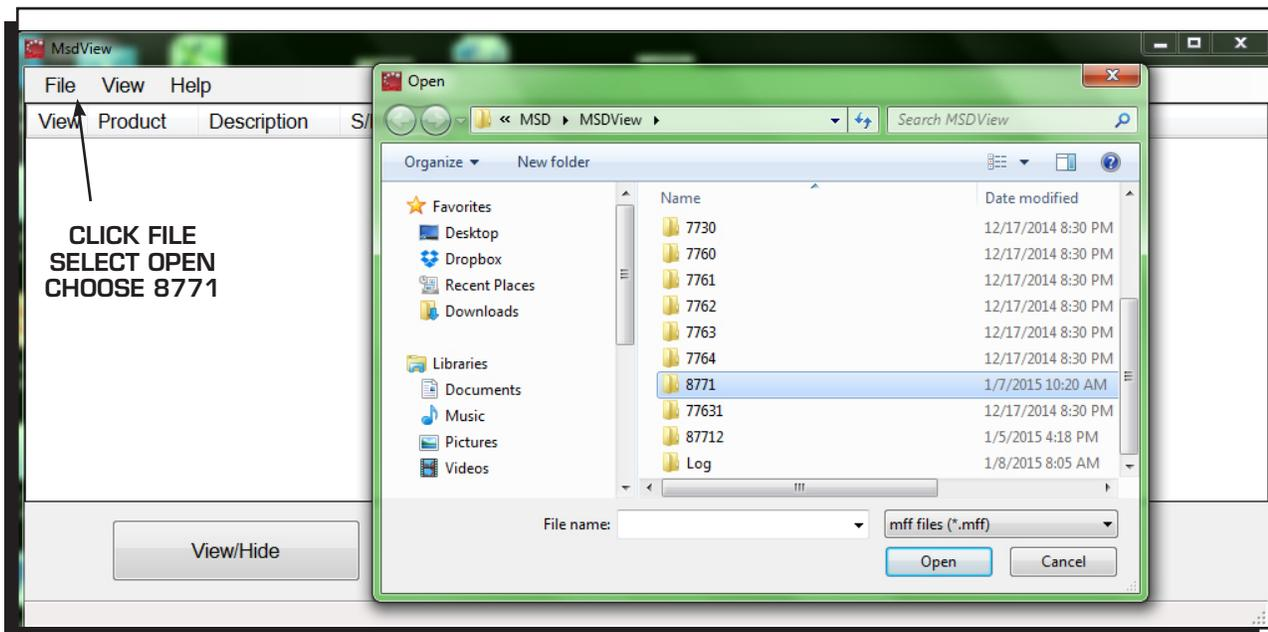

Figure 1 Open the View Program.
5. When the View Icon is selected, a window will open. Go to File, Open and scroll down to 8771. Double click to open the program (Figure 1).